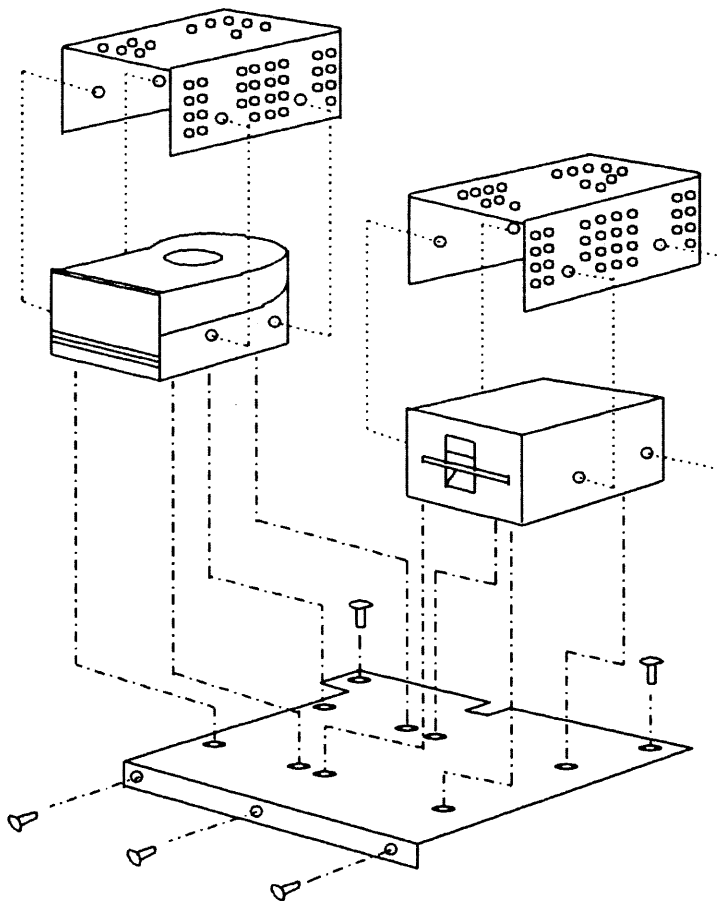

Figure 2-3. Drive Assembly (Release 2.1)
In the System 310, the disk drives are mounted on a metal plate called the drive plate, which sits on top of the power supply cover. Your system has one of two types of drive plates, either Release 2.1 or Release 2.0. The main difference between the two types is in how they are removed from the system. Figures 2-3 and 2-4 illustrate the differences.
The Release 2.1 plate is held in place by five screws, all accessible from inside the chassis (Figure 2-3).
6. Disconnect all cables from the back of the drives. Lift the drive assembly clear of the system, turn it over, and carefully lay it down on a soft surface. Then remove the four Phillips screws located on the base of the drive as shown in Figure 2-3.